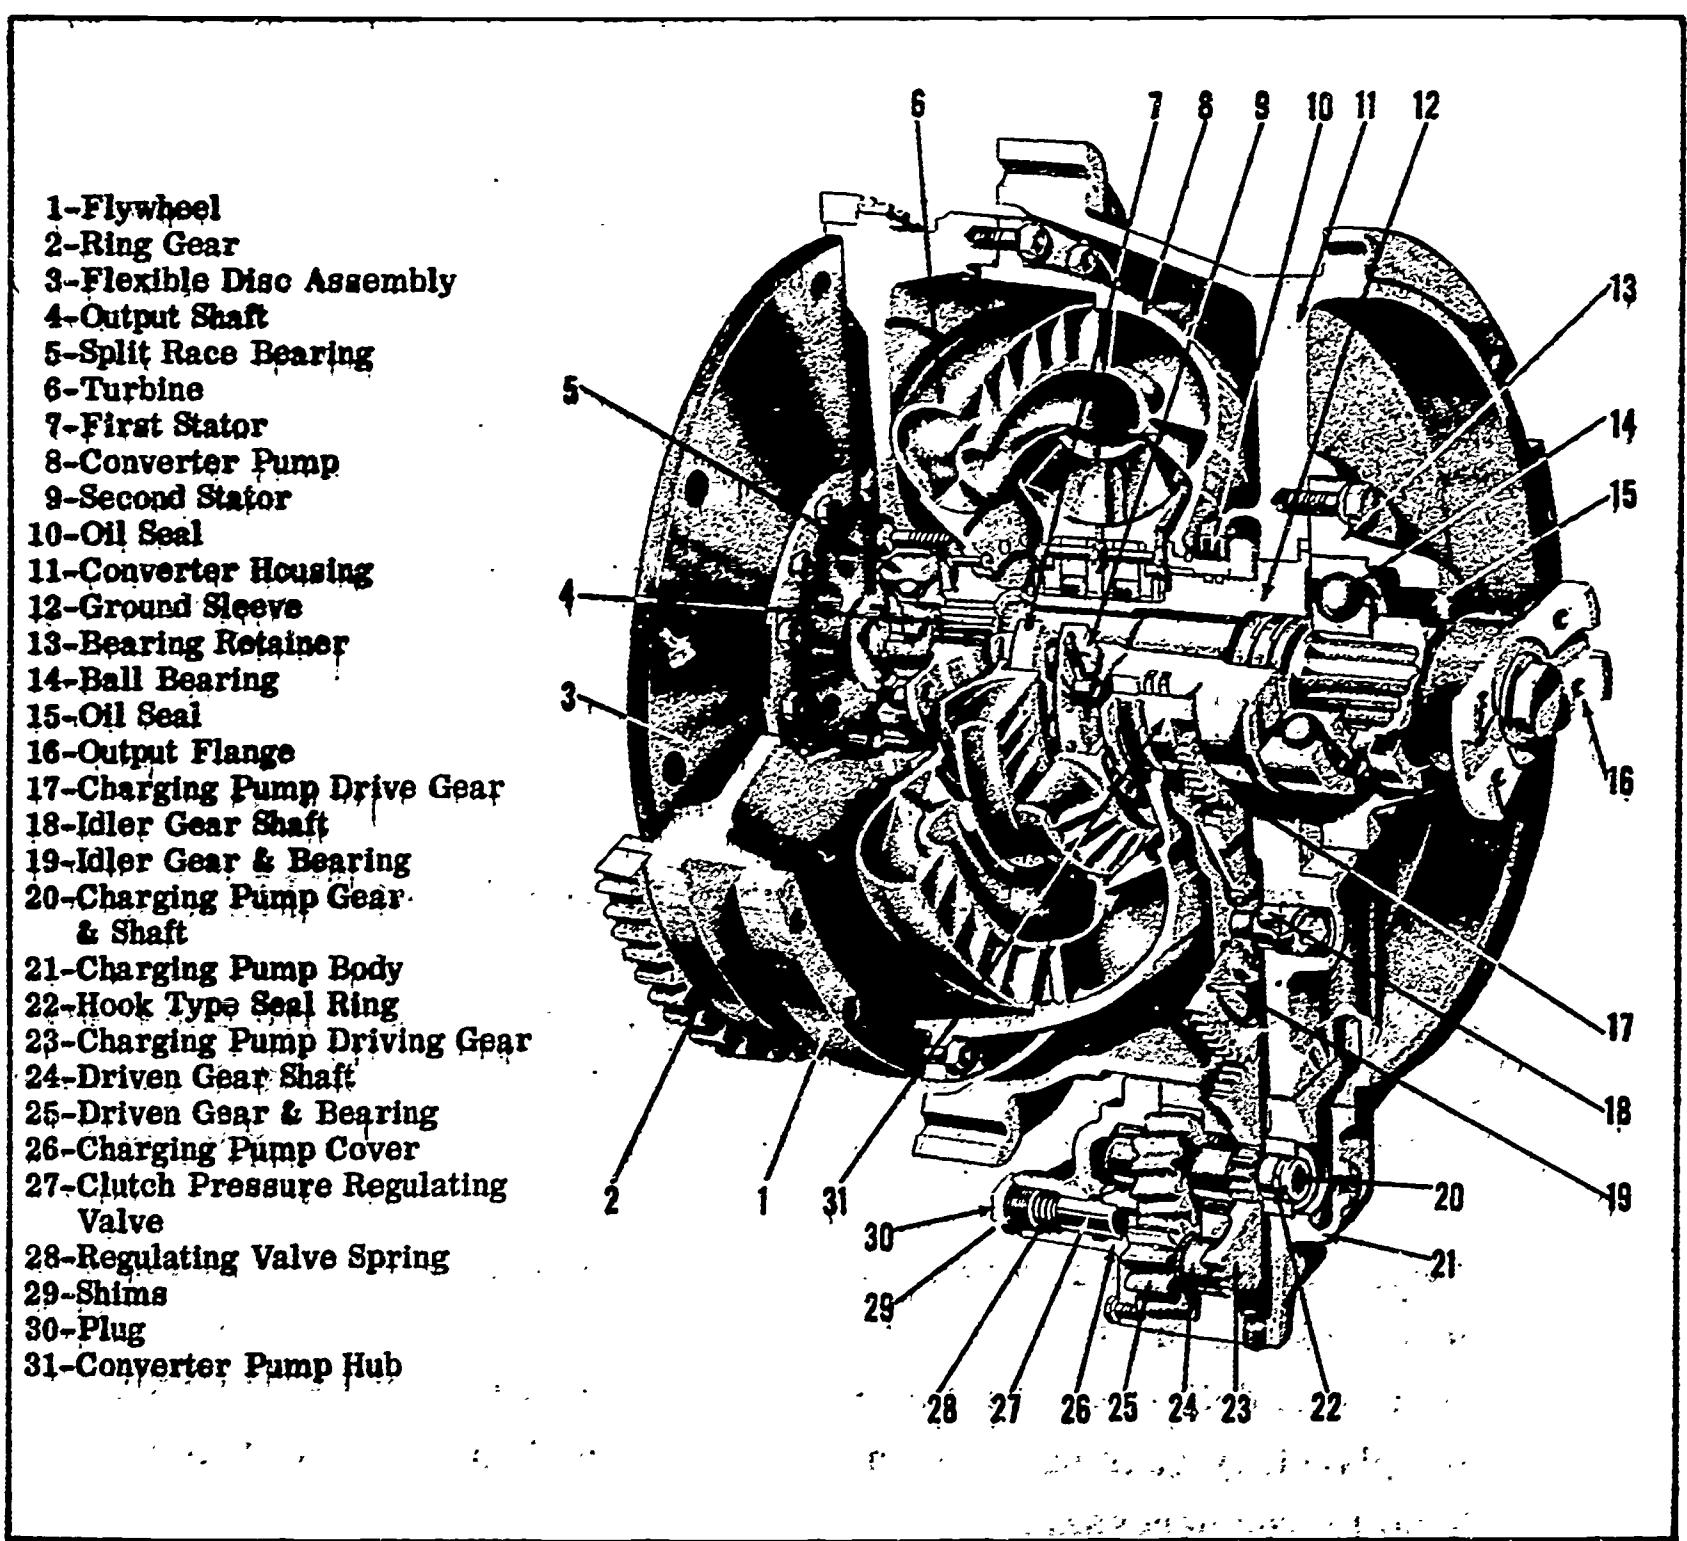

Fig. 5 Cutaway view of a torque converter
Figure 5 shows a cutaway view of the TC-500 converter. This converter performs two functions: It increases the torque or twisting force which the engine delivers, and it acts as a fluid coupling between the engine and planetary gearing when an increase or multiplication of torque is no longer necessary.
In Figure 5, the four major elements of the converter are the converter pump (6), the turbine (5), the first stator (32) and the second stator (31). The converter pump is bolted to and driven by the engine flywheel (3). Thus, the converter pump revolves at the same speed as the engine crank-shaft. The turbine is splined to the converter output shaft (19). The turbine is free to rotate in the oil tight housing formed by the converter pump and the flywheel. The first and second stators ride on a roller race (8), splined to the converter ground sleeve (14), between the converter pump and the turbine. These stators are free to rotate in the direction of rotation of the converter pump but will lock up immediately when backward pressure is applied.